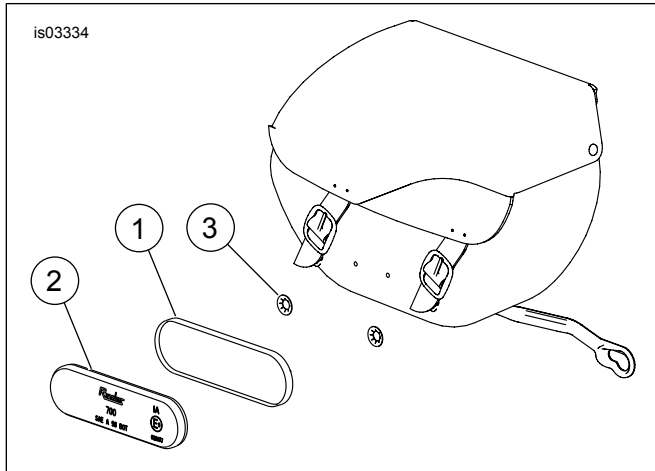

Figure 6. Install reflectors
1. See Figure 6. Position reflector mount (1) in center of saddlebag.